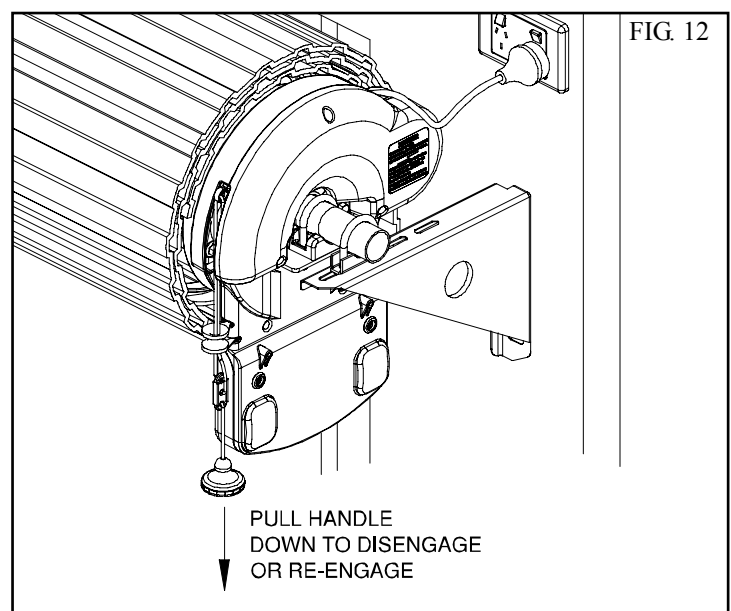

FIG. 12
1. With the drive assembly in manual mode (Fig. 12) move the door up by hand to an approximately mid open position.
4. With the opener in manual mode (Fig. 12) move the door up by hand to an approximately mid open position.